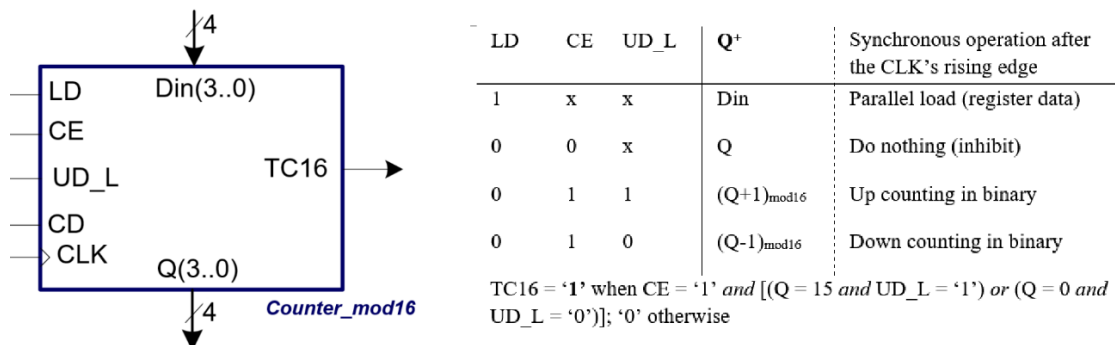

Fig. 5. Symbol of the 4-bit standard universal binary radix-2 counter component (*Counter_mod16*).
5. Invent a synchronous BCD up counter module 75 (*Counter_BCD_mod75*) using **plan C2** and components *Counter_mod16* (Fig. 5) and other combinational circuits if necessary.